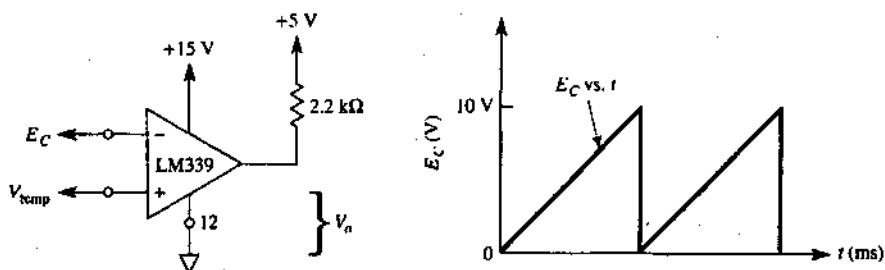

FIGURE P2-14
- 2-14. The frequency of carrier wave  $E_i$  is constant at 50 Hz in Fig. P2-14. If  $V_{temp} = 5$  V, (a) calculate high time  $T_H$ ; (b) plot  $V_o$  vs. time.